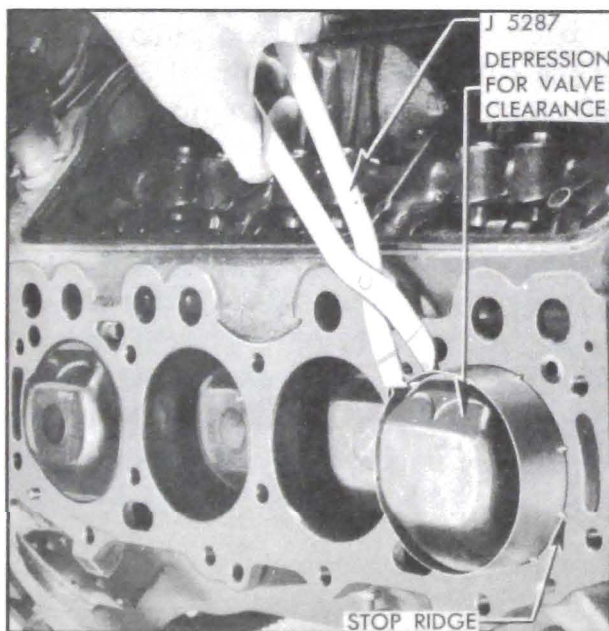

Figure 2-38—Installing Piston with Ring Compressor
8. Make sure that gap in oil rails are on same side as valve depressions in piston head so that gap will be on high side of cylinder bore, turn compression rings so that gaps are not in line, then compress all rings with Ring Compressor J 5287. Stop ridges on one edge of compressor band must be toward bottom of piston. See figure 2-38.